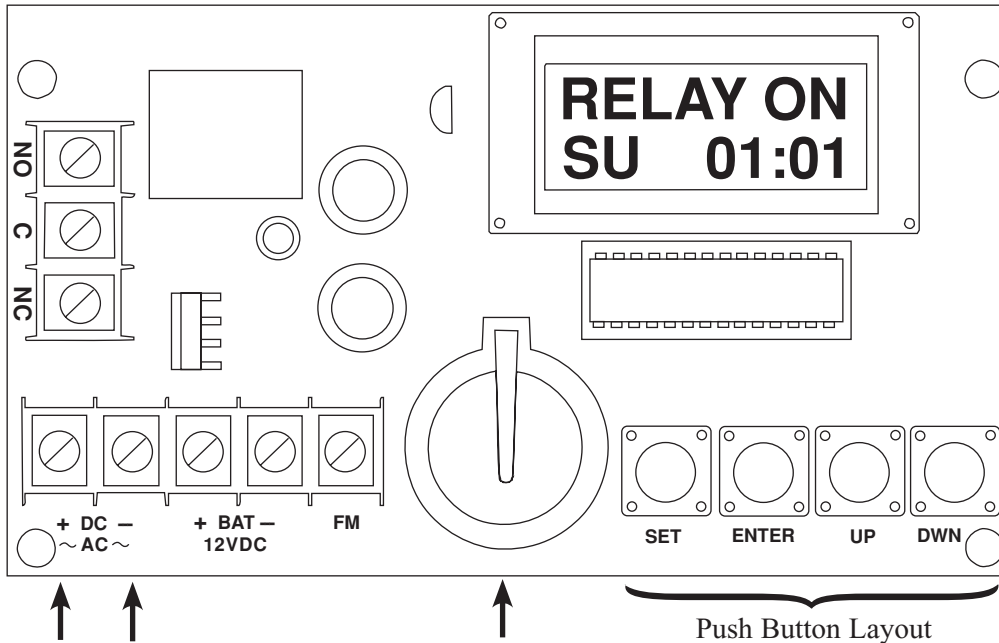

Fig. 1
4. Insert lithium battery (optional/not included. Order part LB2032) in battery holder (*fig. 1 pg. 4*) with the + positive side facing up.